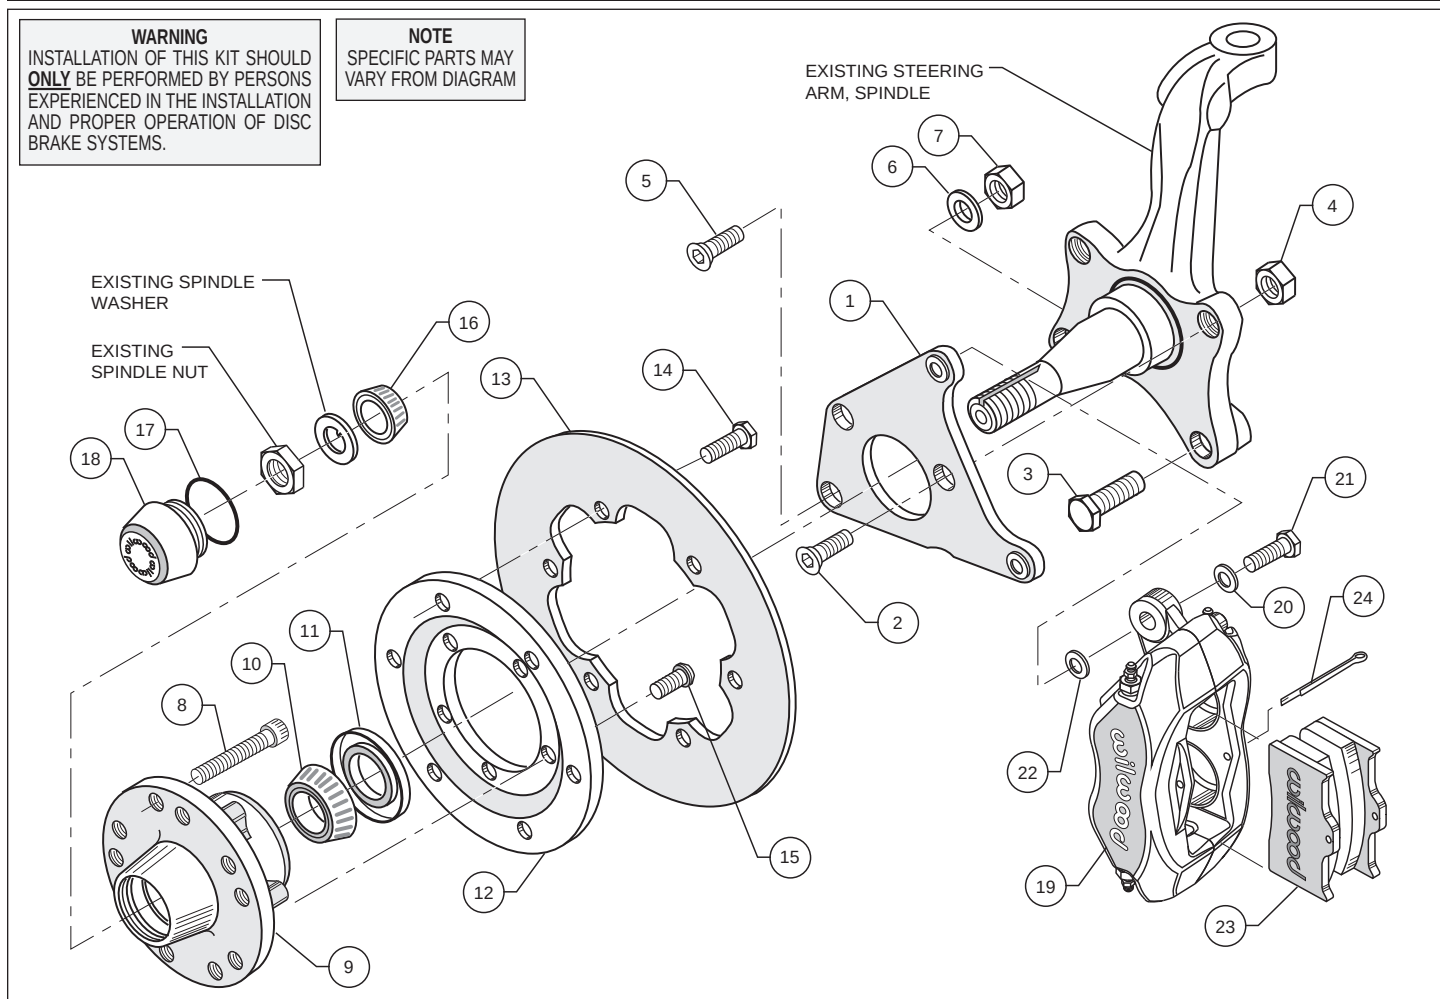

Figure 1. Typical Configuration, Drum Spindle
- Mount the adapter/rotor assembly (12/13) to the hub (9) using bolts (15) (finger tight), as shown in Figure 1. Using an alternating sequence, remove bolts one at a time, apply red *Loctite*® 271 to the threads, and torque to 55 ft-lb.